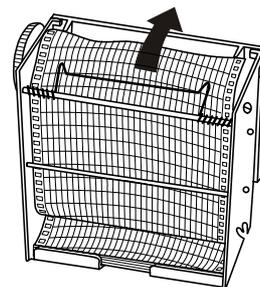

Fig. 3
4. Remove 2 screws fixing the battery mounting plate. (Fig. 3) Disconnect the battery connector (Fig.4)
3. Set a new recording paper in place on the rear bottom of the cartridge. Set the hole on the chart in the cog of the recording paper driving assembly and feed the recording paper in the direction of the arrow by driving the cog wheel. (Fig. 3)
3. Open the case cover of battery at the left bottom (Fig. 3). Set a battery in the case with its minus pole positioned backward.
Turn the power switch ON. The ink pen will move inward on the circular recording paper and stop temporarily at the 0% position (equivalent to the 40°C line). Then the ink pen will move to the position which indicates the measured temperature.(Fig.3)